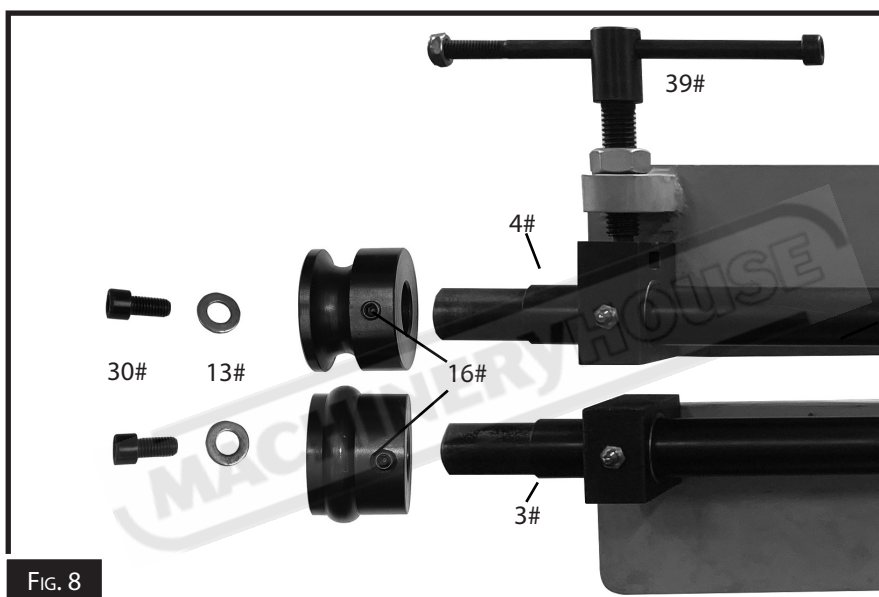

FIG. 8
2. Slide both dies onto the Driving Shaft(3#) and Driven Shaft(4#) at the same time (see Figure 8). Ensure that the Screws(16#) are positioned over the flat surface on the Driving Shaft(3#) and Driven Shaft(4#).